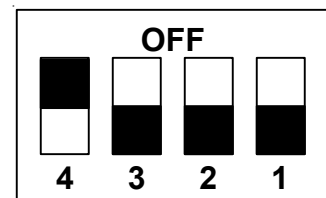

Figure 4
11. Move Dip switch No. 4 to OFF (see Fig. 4)